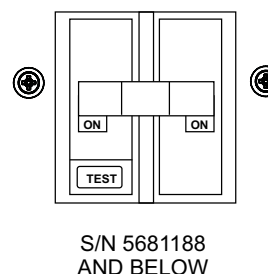

Figure 26. Main Circuit Breaker (ON)
- Place main circuit breaker (S/N 5681188 and below) in the **ON** position (Figure 26)